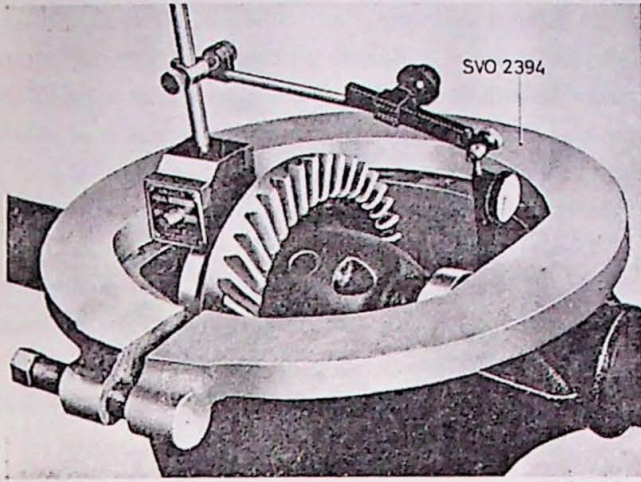

Fig. 5-11. Expanding the drive pinion carrier
7. Fit tool SVO 2394 in the holes in the drive pinion carrier as shown in Fig. 5-11. Fit an indicator so that the expansion of the drive pinion carrier can be read off. Tighten the tensioning screw so that the carrier is expanded not more than 0.3 mm (0.012"). Remove the indicator. Lift out the differential case with the ring gear.
11. Fit tool SVO 2394, see Fig. 5-11 and an indicator on the drive pinion carrier. Tighten the tensioning screw so that the drive pinion carrier is expanded by not more than 0.3 mm (0.012"). Remove the indicator. Fit in the differential with bearings. Then remove the tool SVO 2394.